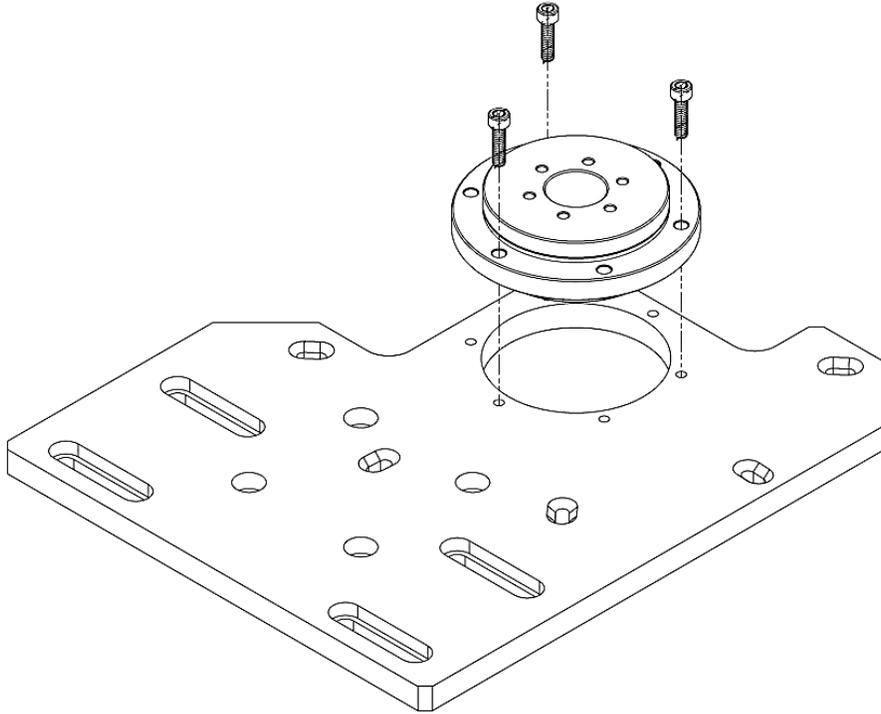

Figure 4: Attach bearing to base plate
3. Attach the bearing to the base plate using the three (3) 8-32 screws provided. Orient the bearing as shown in Figure 4.